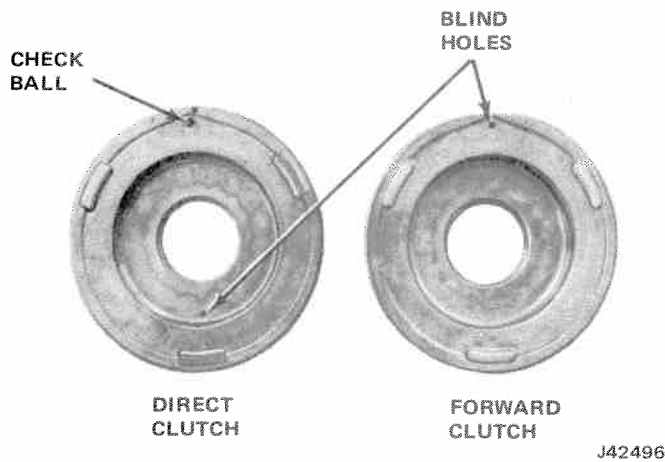

Fig. 7-66 Forward and Direct Clutch Piston Identification
(3) The forward clutch piston can be identified by the blind hole in the clutch apply face of the piston as shown in fig. 7-66.